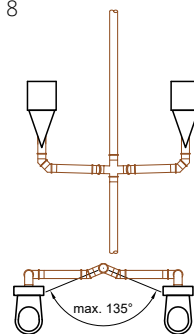

Figure 9
- If this is not possible, the distance in relation to the base heights must be at least 25 cm as shown in Fig. 9.